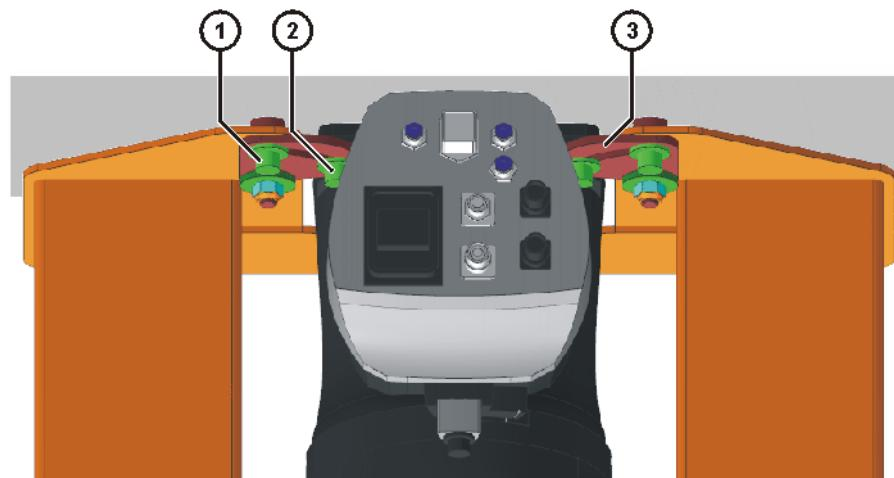

Fig. 11-8: Positioning and fastening the swivel holders
14. Position swivel holders on base frame (**>>> Fig. 11-8**).